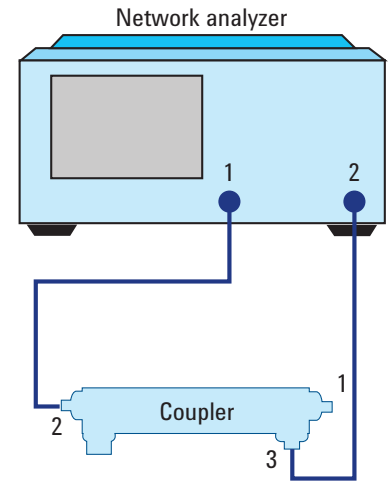

Figure 12. Equipment setup using network analyzer with coupler port 2 and port 3
8. Reverse the coupler as shown in Figure 12. Measure and record **directivity (S32/S31)².**